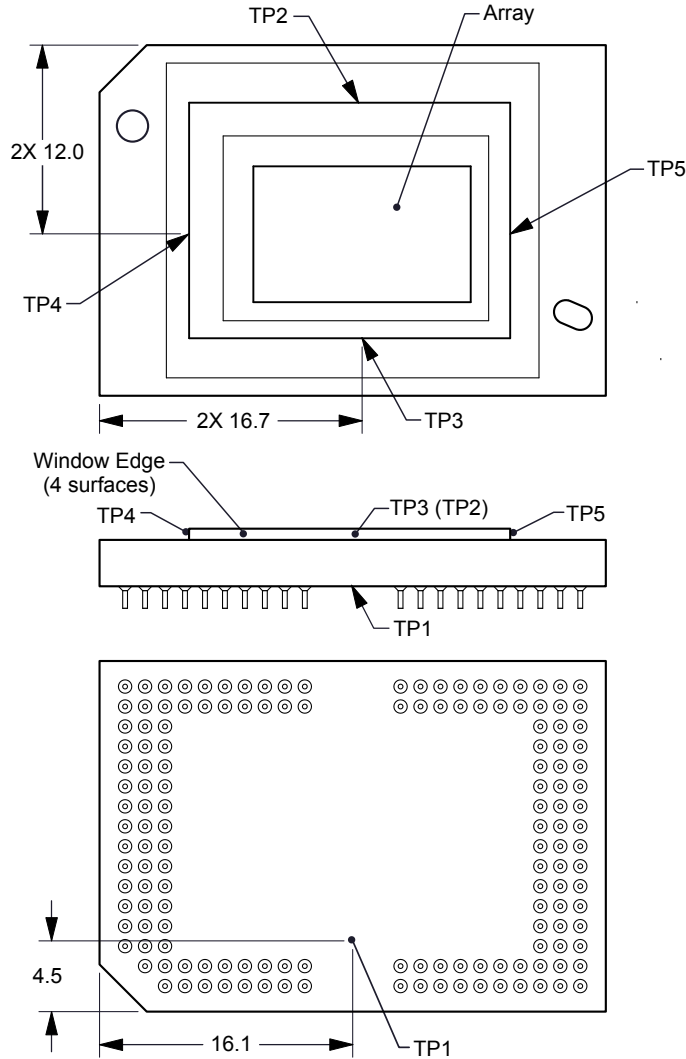

図 6-1. DMD Thermal Test Points
Micromirror array temperature cannot be measured directly, therefore it must be computed analytically from measurement points on the outside of the package, the package thermal resistance, the electrical power, and the illumination heat load. The following equations show the relationship between array temperature and the reference ceramic temperature, thermal test TP1 図 6-1 shown above:
- T_{CERAMIC} = Measured ceramic temperature (°C), TP1 図 6-1
- $R_{\text{ARRAY-TO-CERAMIC}}$ = Thermal resistance of package specified in セクション 5.5 from array to ceramic TP1 図 6-1 ($^{\circ}\text{C}/\text{W}$).
- Q_{ARRAY} = Total DMD Power (electrical + absorbed) on the array (W)
- $Q_{\text{ELECTRICAL}}$ = Nominal electrical power (W)
- Q_{INCIDENT} = Incident illumination optical power (W)
- $Q_{\text{ILLUMINATION}}$ = (DMD average thermal absorptivity \times Q_{INCIDENT}) (W)